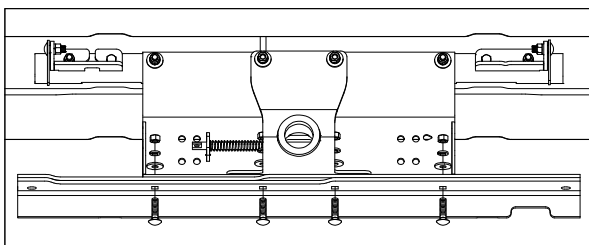

Figure E3: Looking up at center section. (Frame not shown.)
3. **Attach front cross members.** With the cross member and brace spanning the frame slide both back against the center section. While pushing up on the center section (so the raised portion fits through the 4" hole in the truck bed), align the holes and install 1/2" x 2" carriage bolts through the cross member, brace, and the center section. Place a flat washer, lock washer, and nut on each bolt, see Figure E3.